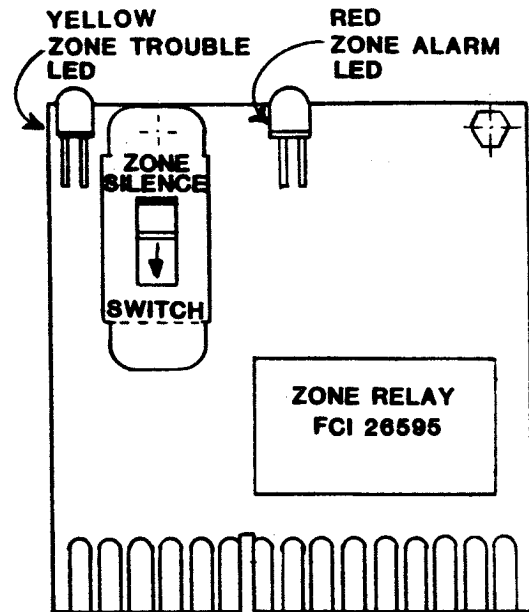

FIGURE 11
E. ZDM TROUBLESHOOTING (Fig. 11)